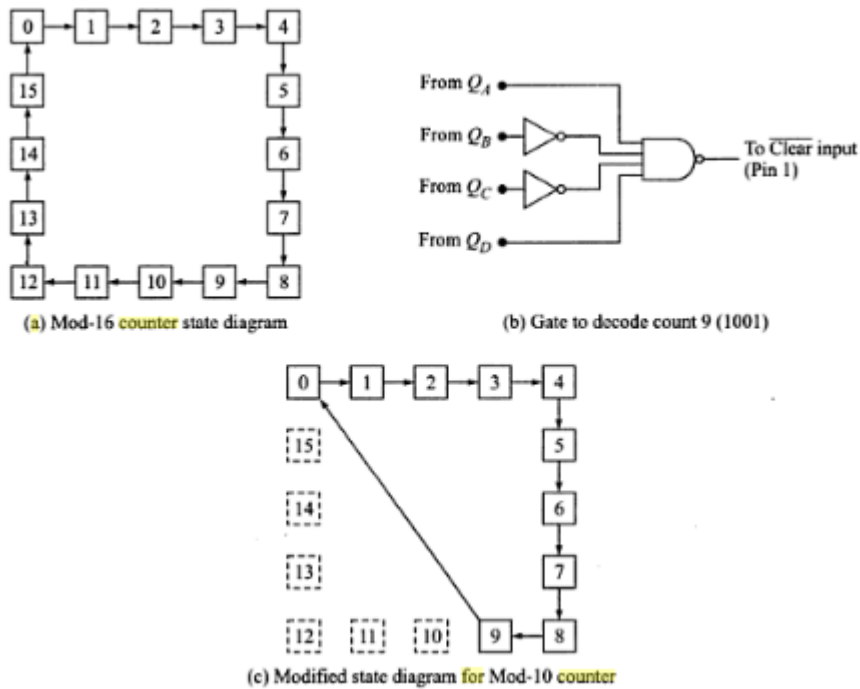

Figure 10.26: a) mod-16 counter state diagram b) modified state diagram for mod-10 counter
- It is a counter incorporating logic such that it can be preset to any desired state. ie it can be used to implement a counter that has any modulus (Figure:10.26).